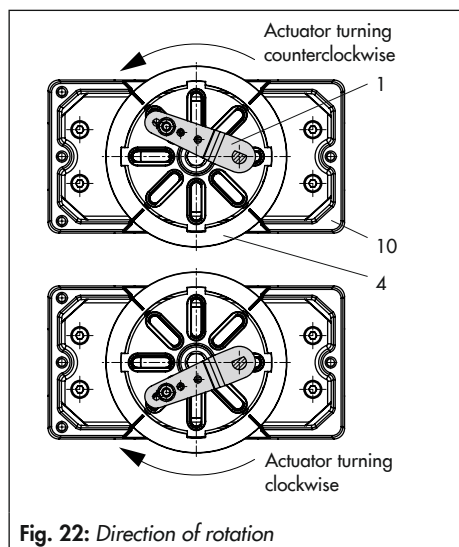

Fig. 22: Direction of rotation
- For **SAMSON Type 3278 and VETEC S160** Rotary Actuators, screw the adapter (5) onto the free end of the shaft or place adapter (5.1) onto the shaft of the **VETEC R Actuator**. Place adapter (3) onto **Type 3278, VETEC S160 and VETEC R** Actuators. For **VDI/VDE version**, this step depends on the actuator size.
- Fasten coupling wheel (4) on the slotted actuator shaft or adapter (3) using screw (4.1) and disk spring (4.2).
- Unscrew the standard follower pin (2) from the positioner's M lever (1). Attach the follower pin ($\varnothing 5$ mm) included in the mounting kit to pin position 90° .
- Mount connecting plate (6) for required $G \frac{1}{4}$ connecting thread or pressure gauge bracket (7) with pressure gauges on the positioner, making sure the two seals (6.1) are seated properly. Double-acting springless rotary actuators require the use of a reversing amplifier on the connection side of the positioner housing (see section 5.9).
- Place positioner on housing (10) and screw it tight. Taking the actuator's direction of rotation into account, adjust lever (1) so that it engages in the correct slot with its follower pin (Fig. 22).